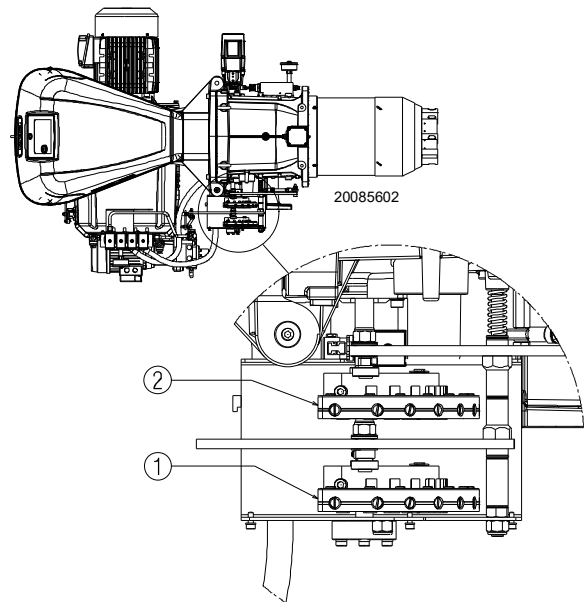
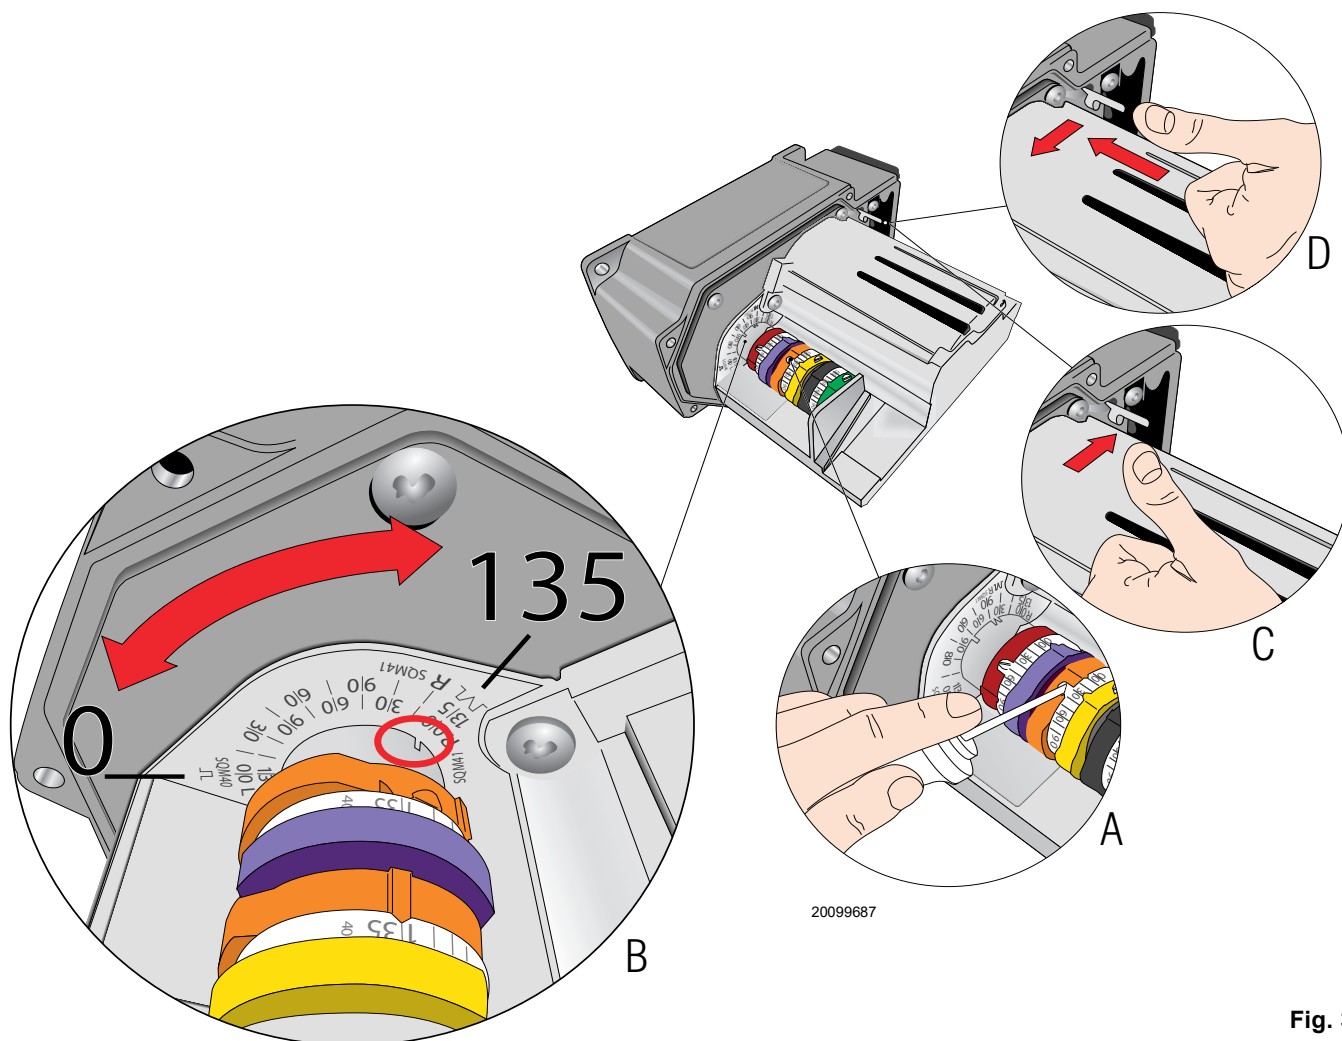

Fig. 31
Fig. 32
The fuel/combustion synchronisation is done by means of a servomotor connected to two variable profile cams, which act on the air dampers 1)(Fig. 31) and gas dampers 2)(Fig. 31).
On the gas butterfly valve, the choking of the fuel according to the required output, is carried out using the cam 2)(Fig. 31).
- Screw or unscrew the screw 2) of the mechanical cam (Fig. 31 on page 32) to increase or decrease the gas output so as to adjust it to the corresponding air output, to obtain optimal combustion.
Key (Fig. 31)
To adjust the cam of the servomotor, see Fig. 32 A).
Progressively adjust the initial profile of the mechanical cam 2)(Fig. 31), using the screws 2)(Fig. 31).
The regulation of the air is carried out by varying the angle of the cam III) of the servomotor Fig. 26 and by using the selector 2)(Fig. 27 on page 28). To adjust the cam of the servomotor, see Fig. 32 A).
To adjust the cam III) Fig. 26, see Fig. 32 A) and B).
Switch off the burner using the switch 1)(Fig. 27), OFF position, release the mechanical cam I) and II)(Fig. 29)(Fig. 31) to separate the gears of the servomotor, pressing and shifting downwards the button 3)(Fig. 32 D) and by manually turning several times the mechanical cam I)(Fig. 29) backwards and forwards check that the movement is smooth and without any hindrance.
We recommend binding the mechanical cams I) and II) again (Fig. 29)(Fig. 31) to the servomotor by shifting upwards the button 3)(Fig. 32 C).